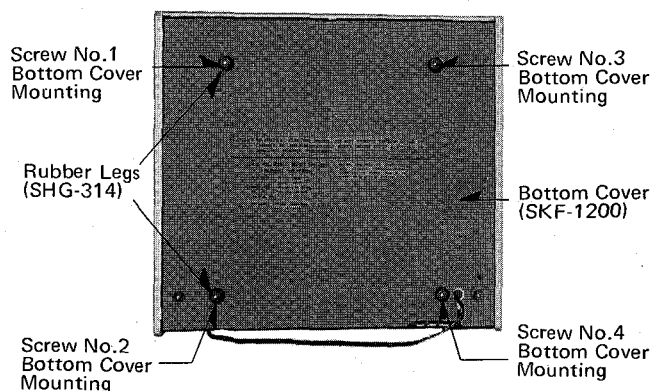

Fig. 3 BOTTOM VIEW
To Remove Record Changer (Refer to Figs. 3 & 7)
1. Remove four (4) bottom cover mounting screws, Nos. 1-4, as shown in Fig. 3 on page 1.